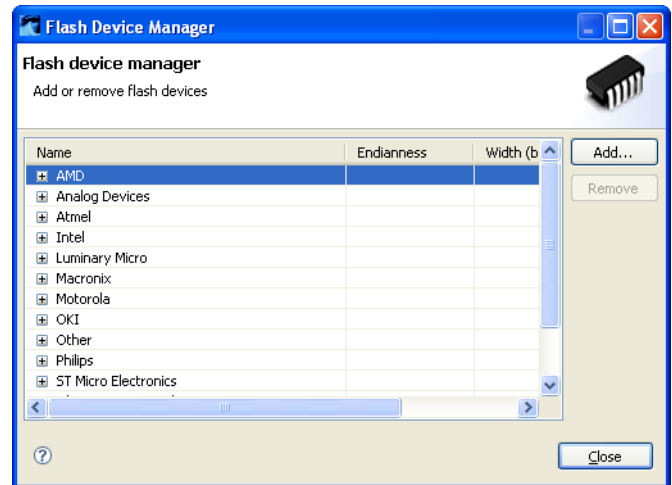

Figure 6-9 Add or remove flash devices
1. Select **Flash Device Manager** from the **Target** menu, see Figure 6-9.